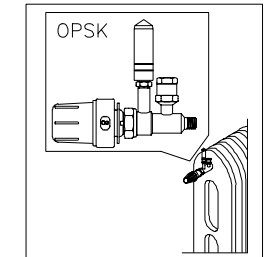

Fig. 9 One-Pipe Steam Valve Model OPSK
ONE-PIPE STEAM SYSTEMS (Fig. 9)
2. Install as shown in Fig. 9. **Note:** Steam air vent must be mounted in upright position. Vacuum breaker required.